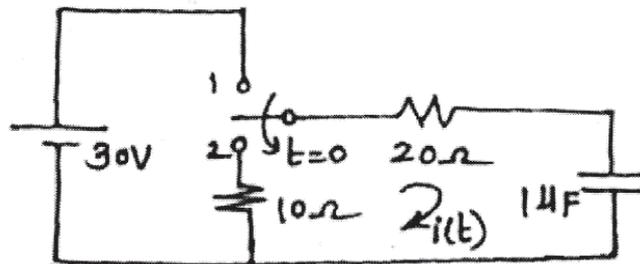

Fig. 6
- c) In the network shown in Fig. 6, switch is moved from position 1 to 2 at  $t = 0$ . Find  $i(t), \frac{di(t)}{dt}, \frac{d^2i(t)}{dt^2}$  at  $t = 0^+$  by Laplace Transform approach.